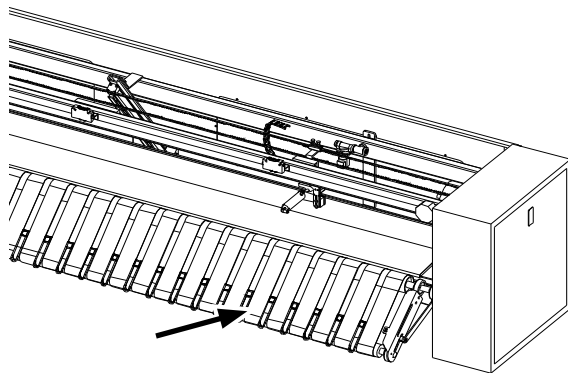

Figure 2-18: Measure the O.P.L. discharge ribbon speed.
3. Use a hand-held speedometer to determine the speed of the O.P.L. discharge ribbons (Figure 2-18). Make sure to hold the wheel over the ribbon against the turning roll.